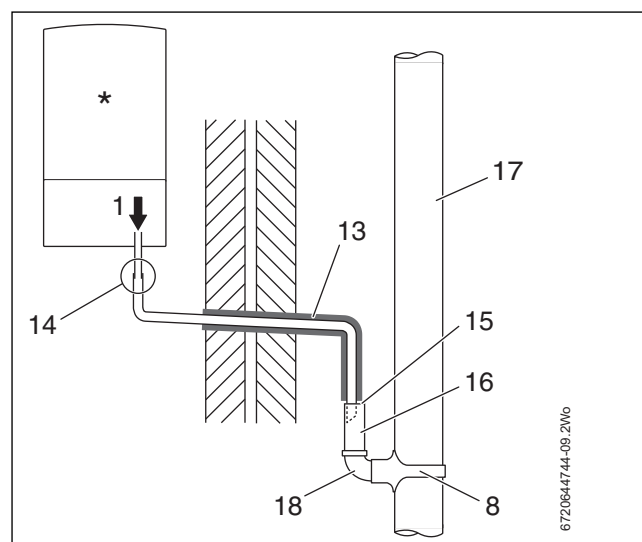

Fig. 14 Disposal into a rainwater down pipe
- Refer to figure 14 when a rain water down pipe is used to dispose of condensate.